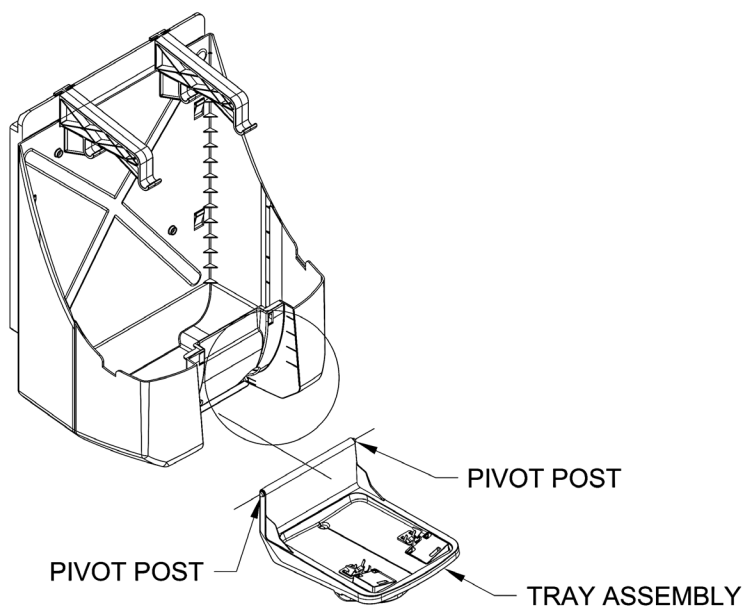

FIGURE 4
**Step 4. Tray Assembly (Ref Figure 4)**